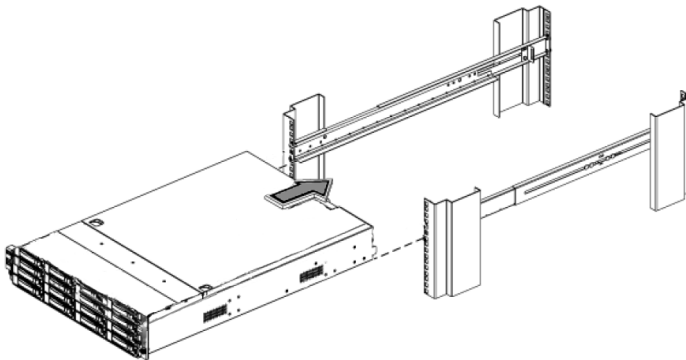

Figure 3: Insert the device into the rack
4. Slide the ES NAS into position on the rails (Figures 3).